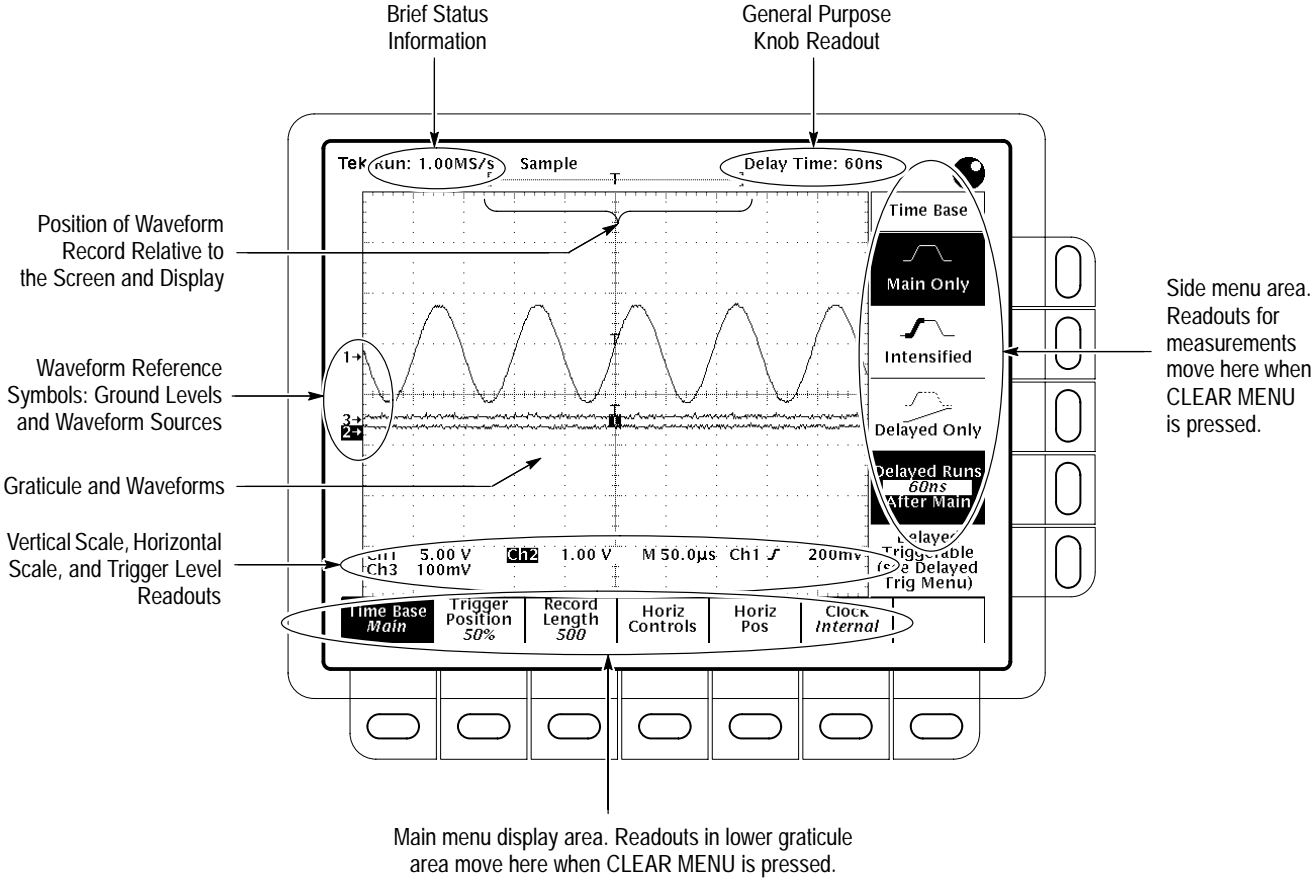

Figure 4-1: Map of Display Functions
- The vertical scale readout for the channel under test shows a setting of 100 mV, and a square-wave probe-compensation signal about five divisions in amplitude is on screen. (See Figure 4-1 on page 4-3 to locate the readout.)